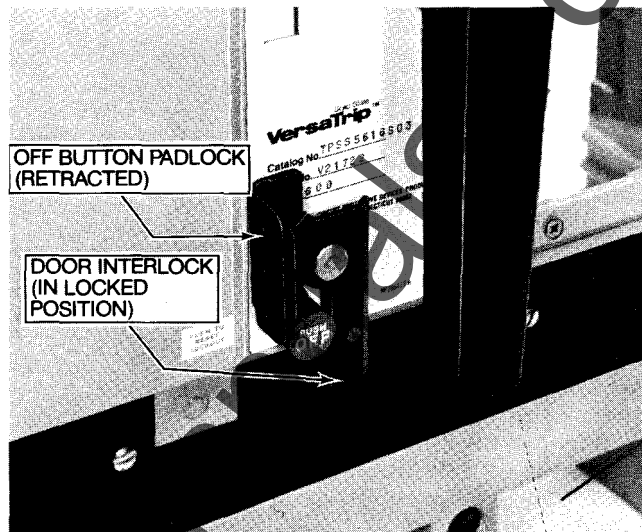

Figure 45.
1. With breaker OFF paddle may rotate counterclockwise over breaker nameplate to clear enclosure panel door. Rotate clockwise to lock over door. (Fig. 45).